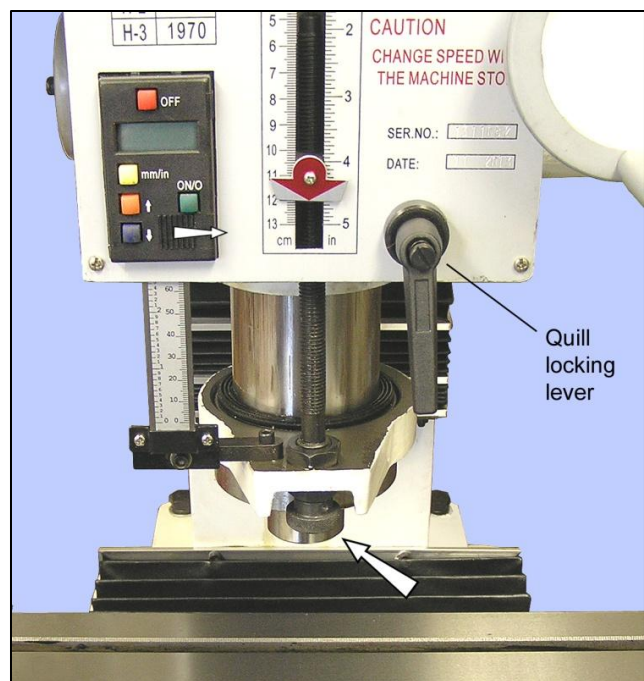

Figure 2-7 DRO, depth stop and quill locking lever
In the drilling mode, coarse feed, the mill functions like a standard drill press – pull the upper lever toward you to lower the quill. For milling operations the lever hub is disengaged, and the quill is controlled by the fine downfeed handwheel. The quill is locked by the lever to the right of the depth stop, Figure 2-7.
For drilling operations, loosen knob (4), allowing the lever hub to rotate independently of sleeve (3). If desired, set the depth stop, Figure 2-7.
Rotate the fine control knob (2) to raise or lower the quill. Before switching to fine control, it is usually a good idea to run the depth stop up to the top. Lower the quill by rotating the fine control knob clockwise, positioning it precisely either by counting divisions on the graduated dial, or by reference to the digital readout (DRO), Figure 2-7. Use the locking lever to hold the quill firmly in position.